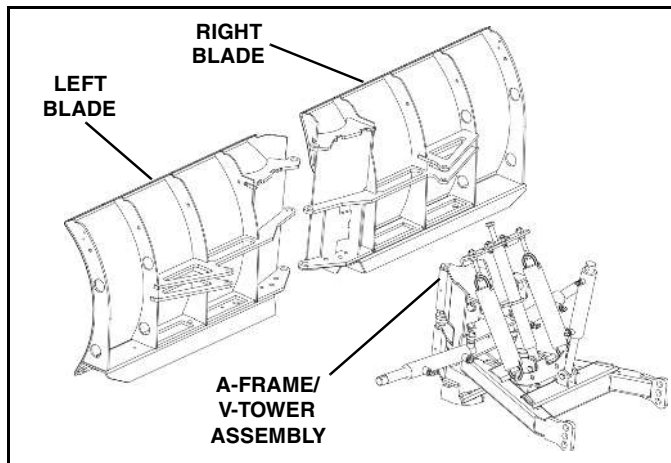

Figure 1-4
2. Position the left and right blade in front of the A-frame/V-tower assembly. (See Figure 1-4).